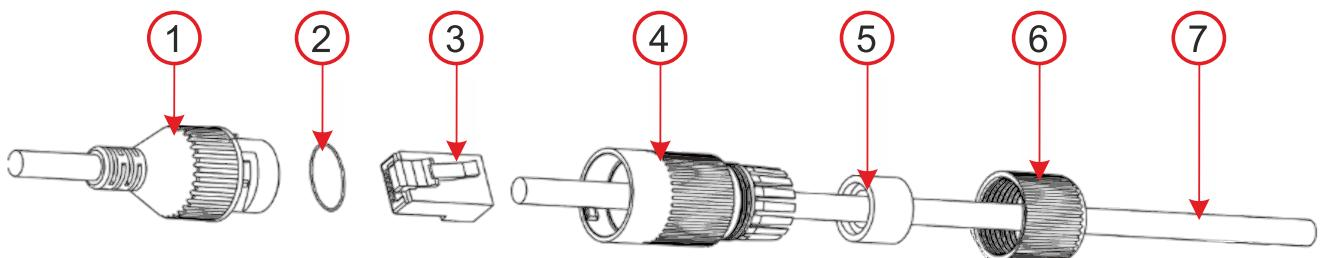

Fig. 4: How to fold the waterproof LAN connector cover
3. Drill holes in the selected location with a Ø 6 mm drill bit and fix with dowels from the package. Open the mounting base by removing the screws. Depending on the selected cable feed method – centre or side (9), prepare a hole for running the cables. In case of side installation use the cable grommet (5, 6, 7) for the selected hole – (the cable grommet is included in the packing), use the blanking plug (8) for the unused one.
4. Pull the LAN cable through the back of the socket. Screw the back of the socket onto the selected place on the wall with the three screws provided in the packaging and crimp the RJ-45 connector with crimping pliers (see Fig. 4).
5. Plug the RJ-45 connector into the camera. Secure the connection with the waterproof cover (7) with the bayonet cap (5) and screw it tight. If the utilized router or switch does not provide PoE (power over Ethernet), connect the camera power connector to an external 12 V DC power supply (min. 0.5 A).